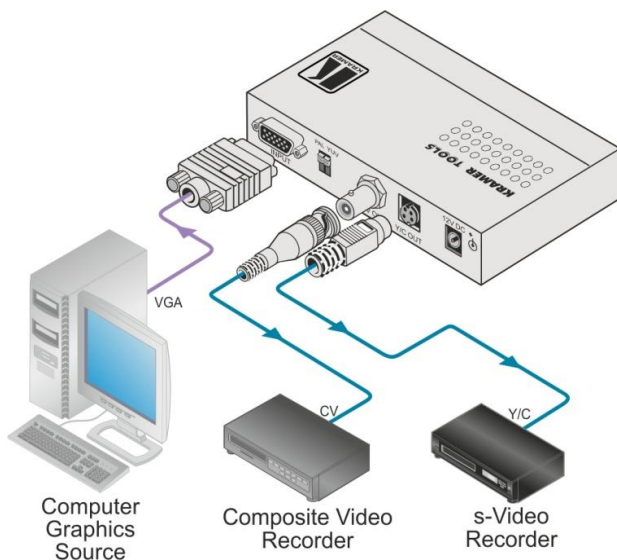
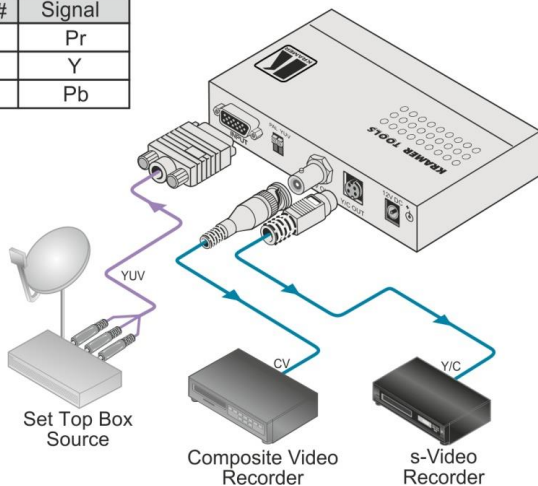

Figure 2: Connecting a Computer Graphics Source to the VP-501N
Figure 3: Connecting a High-Definition Source to the VP-501N
To connect the **VP-501N**, as the example in Figure 2 shows, do the following:
1. Connect a computer graphics source to the 15-pin HD INPUT connector (for example, a PC as shown in Figure 2), or alternatively, connect a high definition source to the 15-pin HD INPUT connector (for example, a set top box as shown in Figure 3).